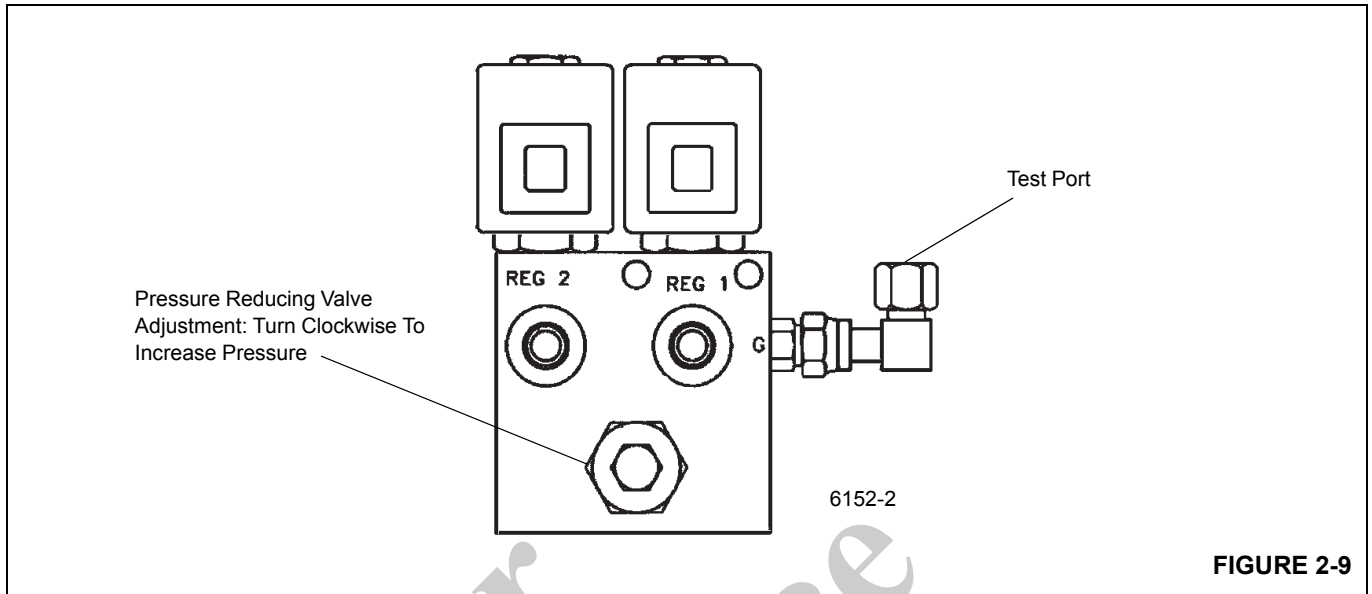

FIGURE 2-9
1. Remove and install pressure gauge on the swing brake pilot supply valve test port per Figure 2-9.